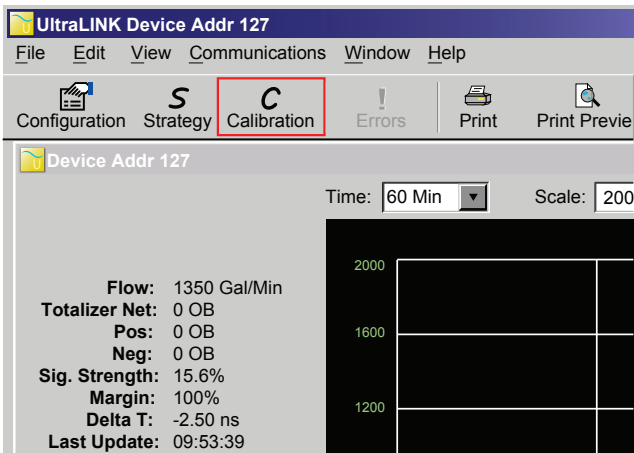

Figure 63: Data display screen
2. From the tool bar, select **Calibration**. See Figure 63.